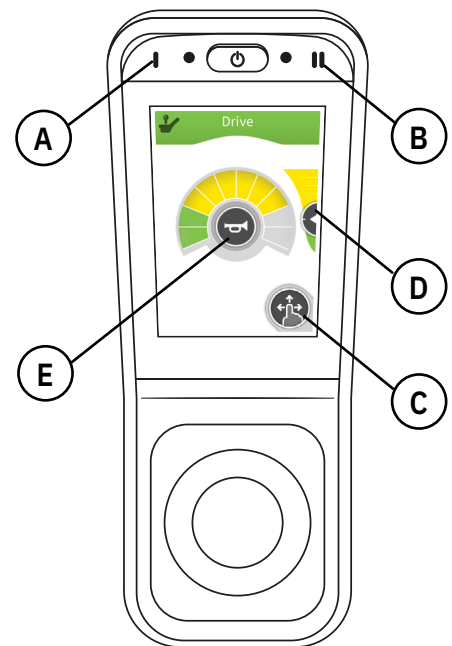

Figure 5.10. LiNX REM400 driving functions.
Controls for driving functions are illustrated in Figure 5.10.
- Make sure that the driving function is selected, see Figure 5.10.
- To adjust the driving characteristics within the selected driving profile, move your finger up or down on the speed control on the display (D). The lever adjusts the speed range defined in the driving profile.
- Press the horn (E) for an audible signal; see Figure 5.10.